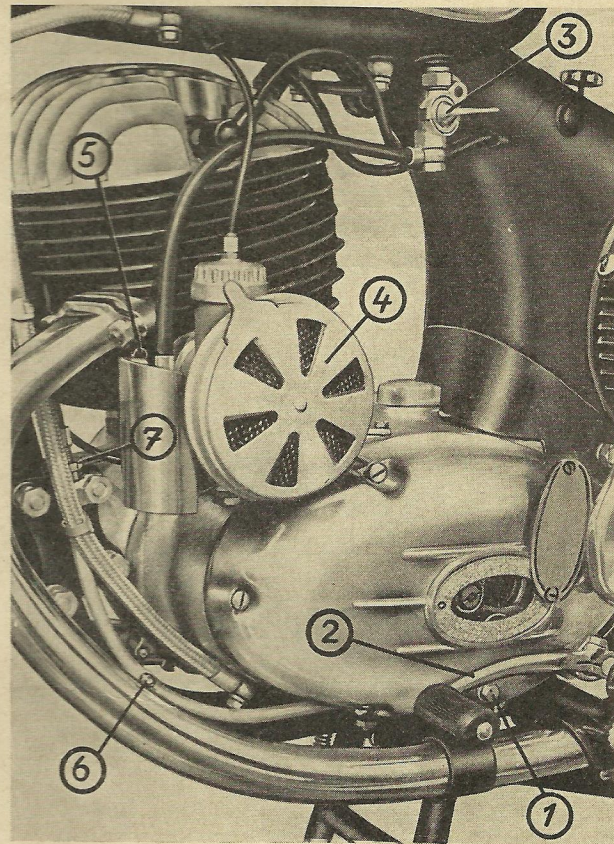
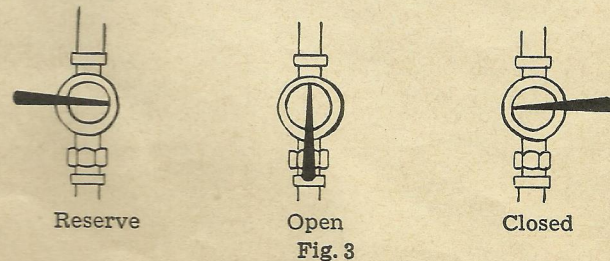
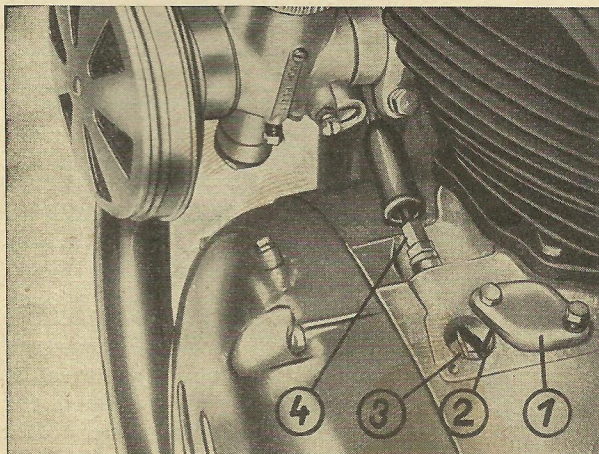

Fig. 2
Fig. 3
Fig. 9
of oil upon these tubes to prevent the rubber seals from sticking, which might occur if they are left dry. Test oil level in engine-gearbox while the cycle stands perfectly vertical: To ascertain whether there is sufficient oil, oil must escape from the opening after the oil level screw (fig. 2/1) has been unscrewed.
the idling gear is to be charged by means of gear lever (green light lights up). Open petrol tap (fig. 2/3). Three positions (fig. 3).
Close the starter disc on the air filter (fig. 2/4). The carburettor is provided with a special starter carburettor. The twist grip is turned to full throttle position, then the tickler (fig. 2/5) on the float housing is repeatedly depressed at short intervals, until petrol flows over the opening of the chamber containing starting petrol (fig. 9/1). In summer it is unnecessary to close the starter disc. It suffices to depress the tickler a few times, and there is no need for the fuel to overflow.
Operating of gear lever: Push foot gear lever (fig. 2/2) down for lower (slower) gears, draw upwards for higher (faster) gears. Always declutch well before changing gear! Gear shifts work easily, don't force your change speed lever.
To check the setting, the small flange on the engine casing (fig. 9/1) is taken off. The fixed red mark on the casing (fig. 9/2) and the marks of the movable white scale (fig. 9/3) will then be seen. The oil pump is properly adjusted when, with the twist grip at full throttle, these marks coincide. This standard setting is also used during running-in.
Only after running-in has been completed, should the setting be altered if necessary. With average cruising speeds (about 40 m.p.h.) the normal oil consumption is 1 pint of oil to approx. 175 miles. With higher speeds and much riding on full throttle, oil consumption rises to 1 pint for about 150 miles. Even with very good lubricating oil, the oil pump should not be set for appreciably less than the quantities mentioned. To change the fresh oil feed, the twist grip is turned to full throttle position and after loosening the lock nut the setting screw of the bowden wire of the oil pump (fig. 9/4) is adjusted. When the screw is unfastened
Loosen clamp (fig. 9/5) of the carburettor and take off the latter. Unscrew fixing nut (6) of the float chamber and take off the latter. Unscrew the needle jet (7) together with the main jet (4). Unscrew the cover of the float chamber (8) and take out of the float (9). Wash all parts in petrol. Blow through the bore of the main jet (4).